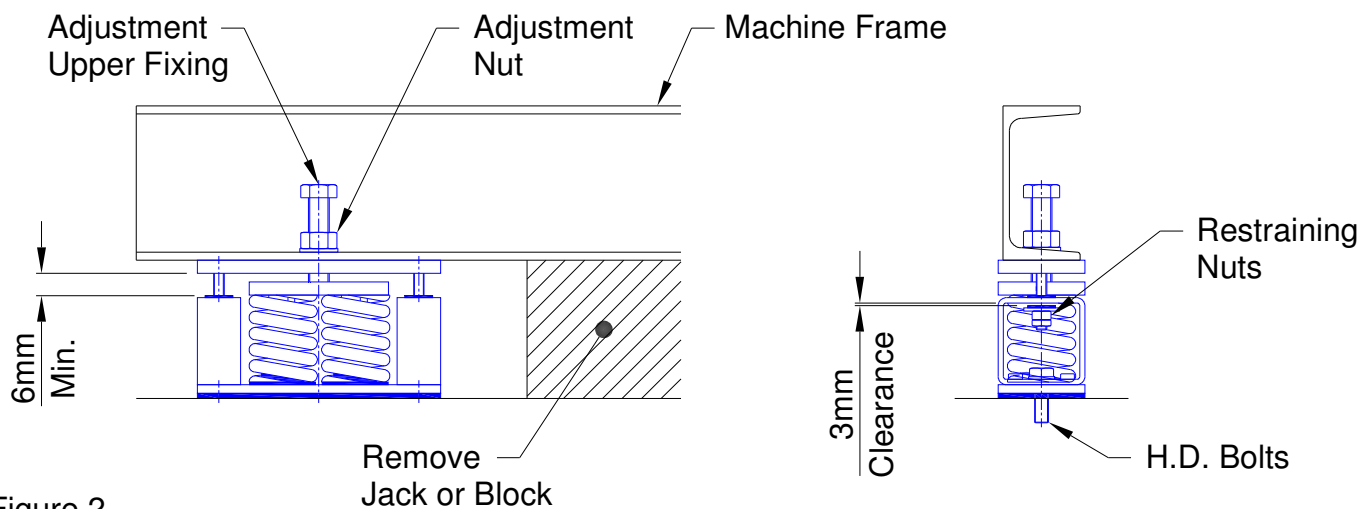

Figure 2
- Isolator restraining nuts can now be adjusted to provide a minimum of 3 mm clearance, as shown on Figure 2.